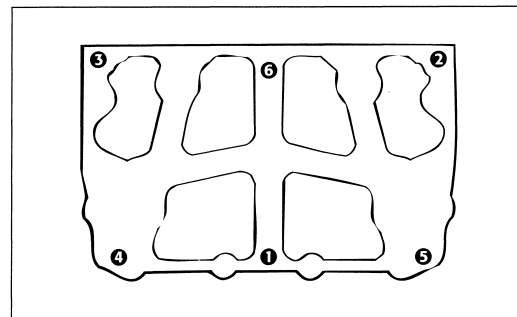

FIG. 3
2. Position the gaskets (3) on the rocker lever housings.
3. Install the three engine brake housings on the rocker lever housings. Install the six mounting screws into each housing. Tighten the screws in steps, following the pattern illustrated in Fig. 3. First tighten to 35 lbft. (48 N•m), then to 70 lbft. (95 N•m).